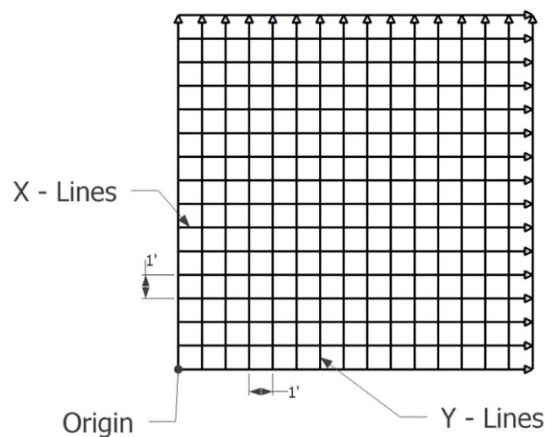

Figure 7-3: X-Lines and Y-Lines relative to the Origin.
**Step 1 – Define the axis-** Lines parallel to the Y-Axis are called Y-Lines. Similarly, lines parallel to the X-axis are called X-Lines (Figure 7-3). Pick the origin of the grid such that it is the furthest corner away from any obstacles. This way, all the lines start properly, but they can be ended early if there is an obstruction.